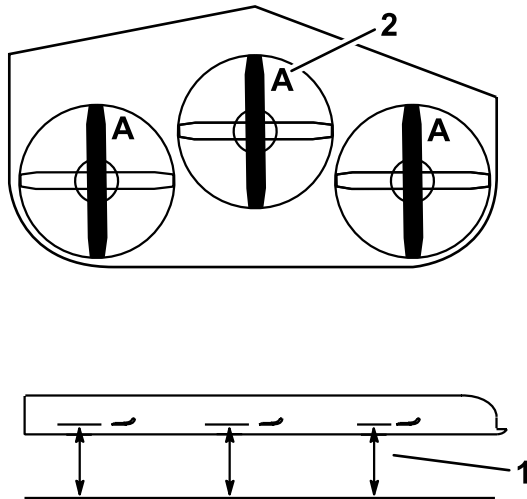

Figure 36
2. Measure from a level surface to the cutting edge, position A, of the blades (Figure 36).